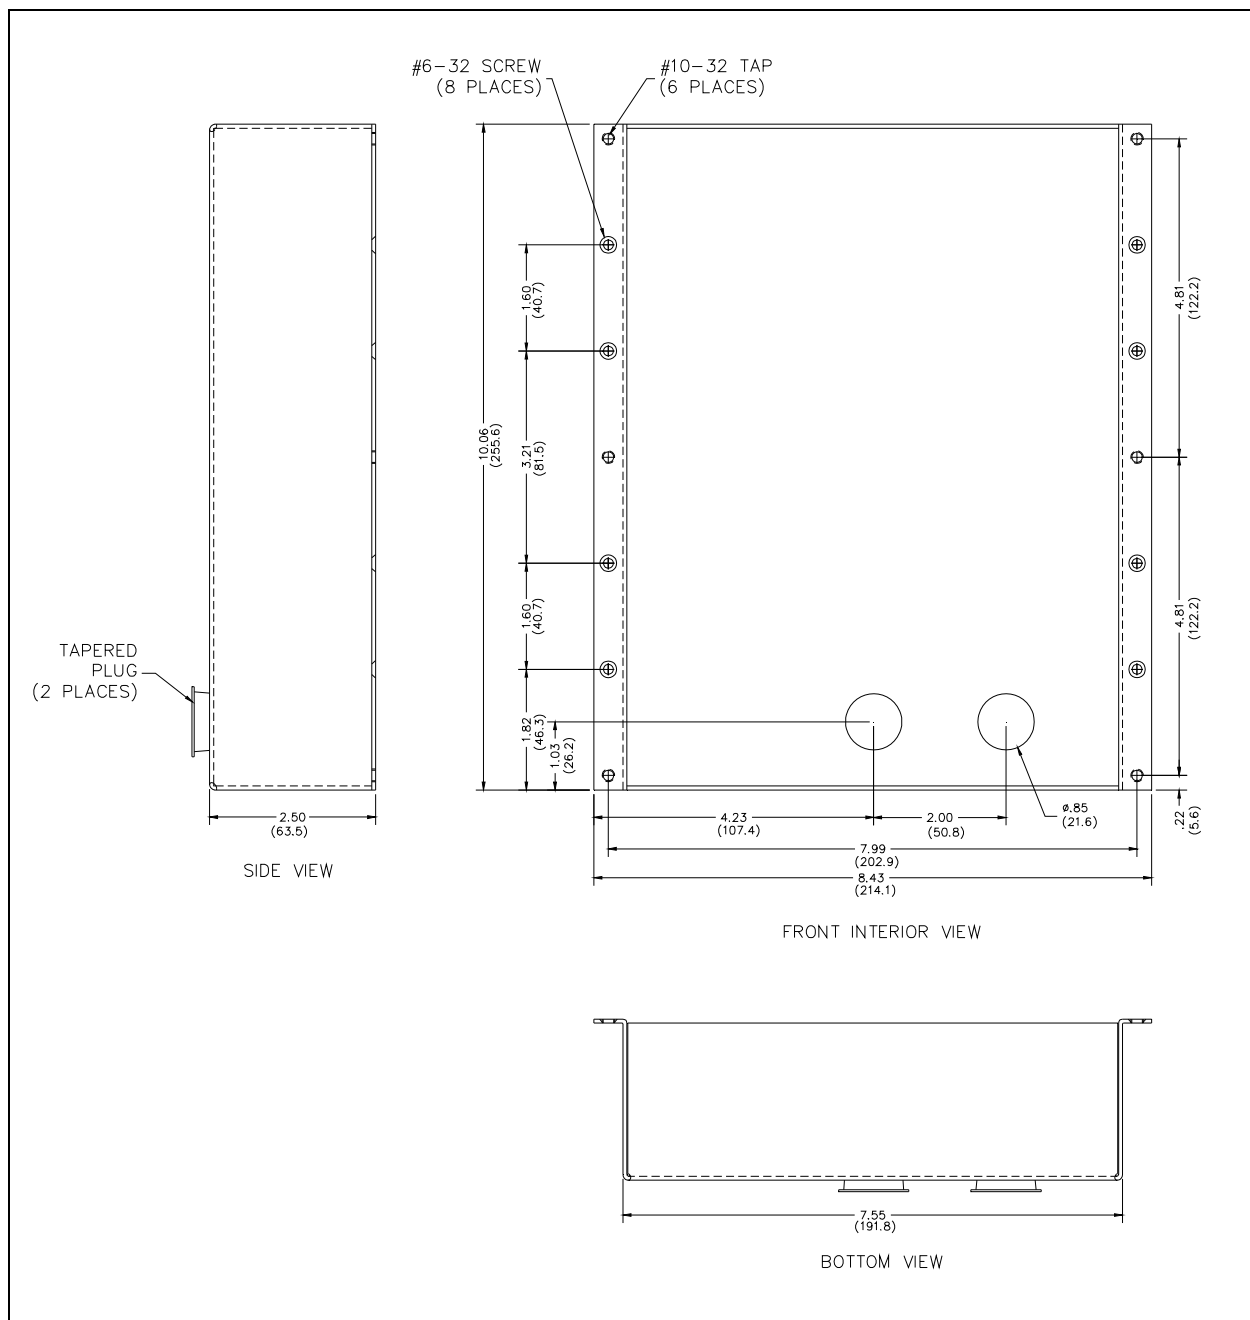

Figure 13. Model 392-001 396-00x, 397-00x, and 398-00x Mounting Details
1. Mount the back box to the structure using appropriate hardware (see Figure 13 for the cutout dimensions).